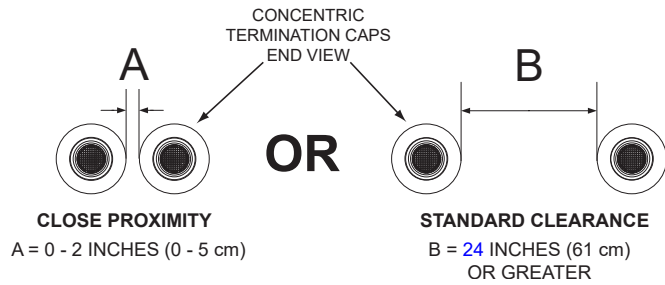
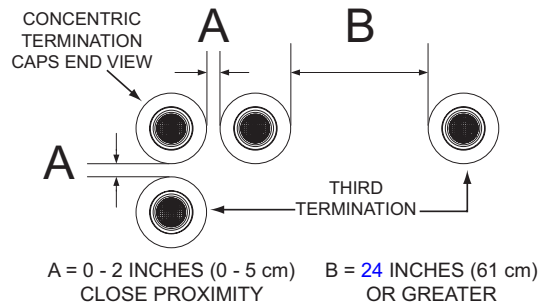

Figure 31. Two Concentric Terminations
Figure 32. Three Concentric Terminations
When installing multiple concentric terminations through a roof or through a sidewall the clearances shown in *Figure 31* must be maintained. See *Multiple Concentric Termination Arrangements* (page 36).
1. The clearance between multiple termination caps must be zero inches (touching) to a maximum of two inches (5 cm), dimension A - *Figure 31*, when installing concentric terminations in close proximity. See *Figure 36* (page 37).
2. The clearance between multiple termination caps must be increased to a minimum of 24 inches (61 cm), dimension B - *Figure 31*, when installation in close proximity (above) is not possible. This is the standard clearance.
1. When installing three concentric terminations through a roof or through a sidewall the third termination may be installed in close proximity as indicated by dimension A in *Figure 32*.
2. If close proximity installation of the third termination is not possible the third termination may be installed as indicated by dimension B in *Figure 32*.
2. Four is the maximum number of concentric terminations that may be installed in a group where all terminations are in close proximity as shown in *Figure 31*.
Two concentric terminations may be installed in close proximity as shown in *Figure 36* or with standard clearances when this arrangement is not possible. See *Figure 31* (page 36) for detailed information on clearances. See *Figure 32* (page 36) when installing three concentric terminations.